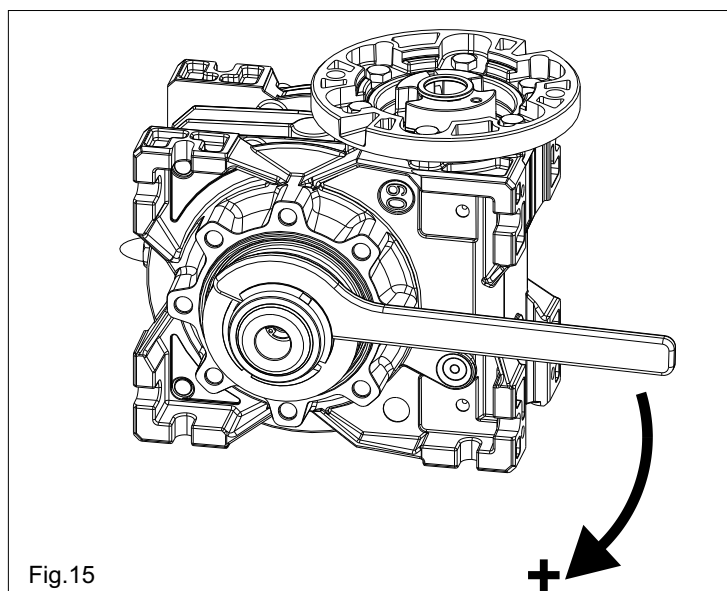

Fig. 15
- To **increase** torque, turn the key **clockwise** (Fig. 15).